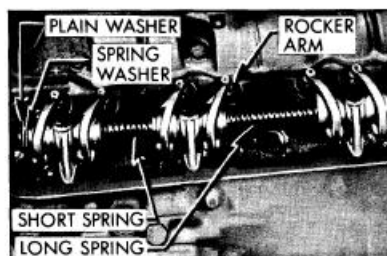

Figure 2-15—Rocker Arm and Shaft Assembly
3. Assemble springs, rocker arms and brackets on shaft as shown in Figure 2-15. Note that the long spring is at middle of shaft, the valve ends of all rocker arms slant toward middle of shaft, and a bracket is located between each pair of rocker arms.